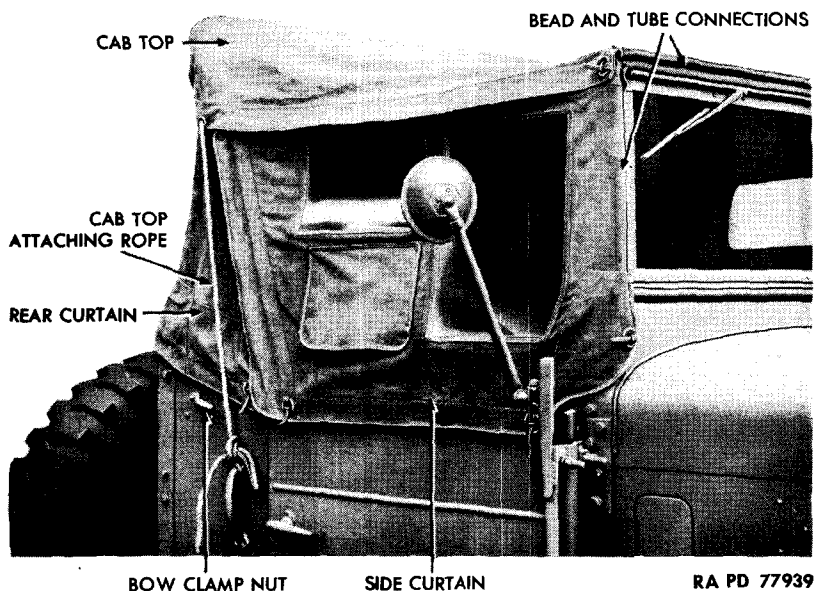

Figure 91 – Exterior of Installed Cab Top
a. **Description** (figs. 91 and 92). The cab top includes: a fabric top attached between windshield frame and top bow, fabric rear curtain attached between top bow and rear top of cab, and a fabric side curtain with window attached between windshield frame and rear curtain on each side. The top and sides are attached to windshield frame through a bead and tube connections. Ropes secure top and rear curtain to top bow and rear of cab.
c. **Removal** (figs. 91 and 92). Untie cab top attaching rope. Disengage top from the grommet which secures it to windshield frame on each side, and pull top over windshield assembly. Slide bead at front of top from tube at top of windshield, and remove top. Disengage side curtains from the four grommets which secure them to windshield frame, cowl, and door on each side. Slide curtain support rod from bracket on door, and pull rod from curtain. Slide bead at front edge of curtain from tube at side of windshield frame, and remove curtain. Disengage rear curtain from grommet which secures it to cab on each side. Loosen and unhook rope which secures curtain to rear top of cab. Loosen clamp nut which secures top bow to cab on each side. Remove cotter pin and flat washer at bottom of top bow on each side, and slide bow from bracket. Remove rear curtain and top bow as a unit.
d. **Installation** (figs. 91 and 92). Position top bow with rear curtain attached in bracket on cab. Install flat washer and cotter pin which hold bow in bracket. Tighten clamp nuts. Engage rope threaded through grommets in curtain to hooks on cab, and tighten and secure rope. Fasten curtain to grommet on each side of cab. Slide bead at front of side curtain through tube on windshield frame, slide support rod in curtain, and position rod end in door bracket. Fasten curtain to the four grommets which secure it to door, cowl, and windshield frame. Slide bead at front of top through tube on windshield frame. Fasten grommet on each side to windshield frame, and pull top over top bow. Pull rope tight, and tie to grab handle on each side.